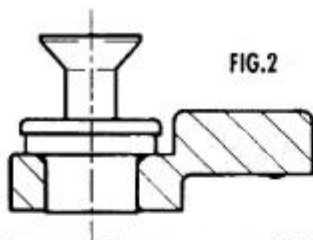

FIG.2
3. Assemble the lock and spacer by placing together, see fig. 2. Place this assembly on the trim and fasten with the screws provided, tighten screws, but ensure the lock can still swivel.